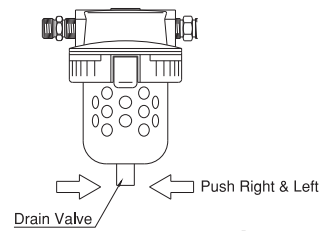

Fig.11
### ① Moisture in the Air Filter (Fig.11)